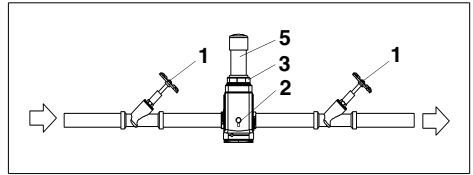

Fig. 10: Cartridge exchange IV
6. Screw in the union nut (3) clockwise and tighten it hand-tight (approx. 1 Nm) (see fig. 10).
7. Close the discharge valve (2) clockwise all the way to the stop.
8. Open the shut-off valves (1) again.